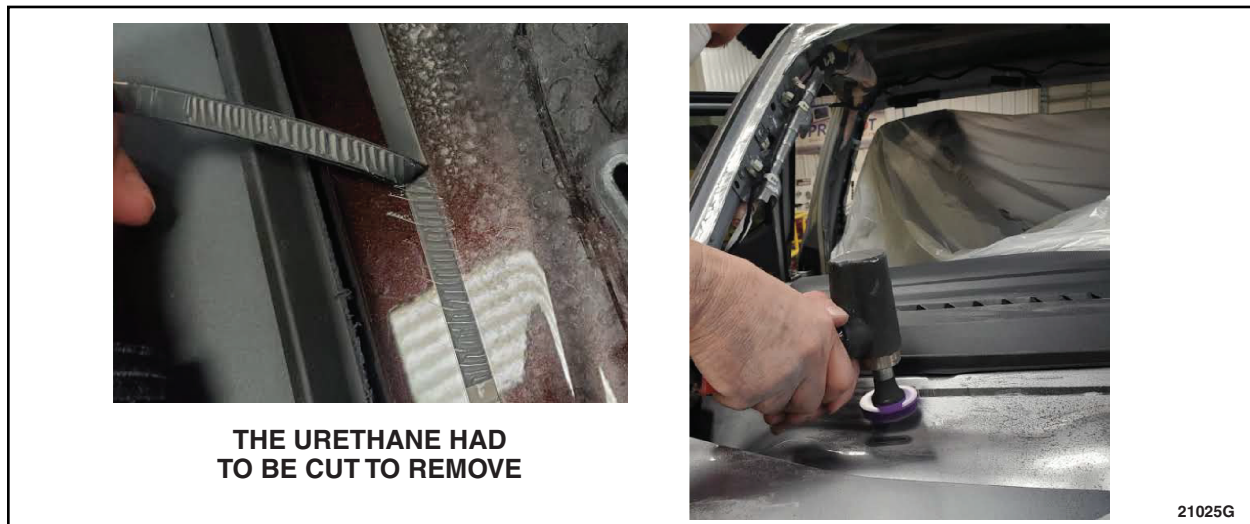

FIGURE 3
- In areas where the urethane did not peel up cleanly, use a Scotch-Brite 3M Roloc disk to remove all remaining urethane from flange while attempting to minimize abrasion to the painted surface. See Figure 3.